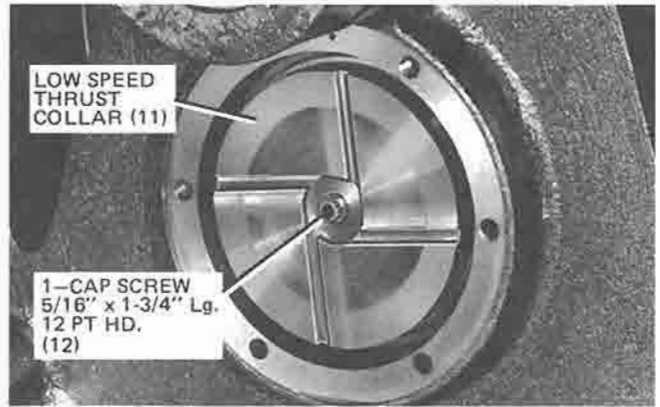

FIG. 15 — REMOVING FRONT LOW SPEED THRUST COLLAR
4. Using a socket wrench remove the 12 pt. hd. cap screw 5/16" x 1-1/4" lg. (12) that fastens the low speed thrust collar (11) in place. (See Fig. 15.)
5. Remove the low speed thrust collar (11).